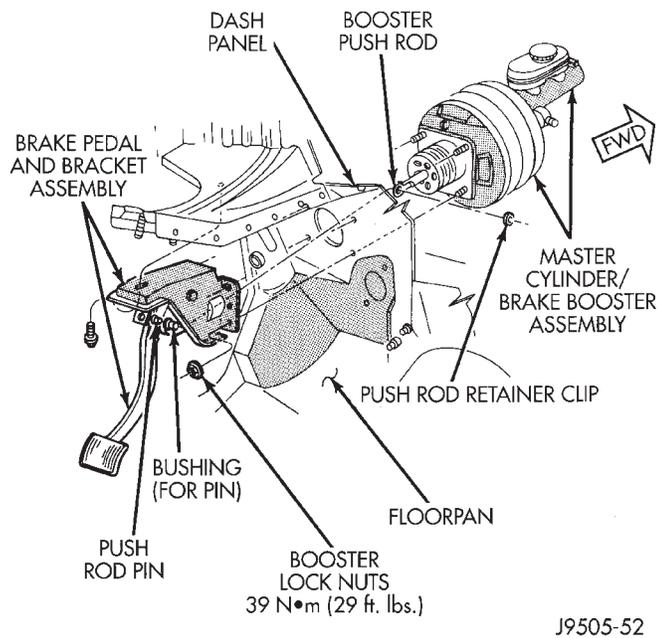

Fig. 20 Brake Pedal Mounting
(1) Remove knee blocker cover and knee blocker, refer to Group 8E Instrument Panel Systems.
(2) Remove retainer clip and washers attaching booster push rod to pedal pin (Fig. 20).
(3) Remove nut securing pedal shaft in support bracket.
(4) Slide pedal shaft outward for clearance and remove brake pedal.
(5) Remove pedal bushings if they are to be replaced.
(5) Lubricate bushings and pedal pin with Mopar multi-mileage grease.
(6) Install bushing on pedal pin if removed (Fig. 20).
(7) Install booster push rod on pedal pin. Secure push rod to pedal with retainer ring and washers.
(8) Install knee blocker cover and knee blocker, refer to Group 8E Instrument Panel Systems.
(9) Check and adjust stop lamp switch if necessary.